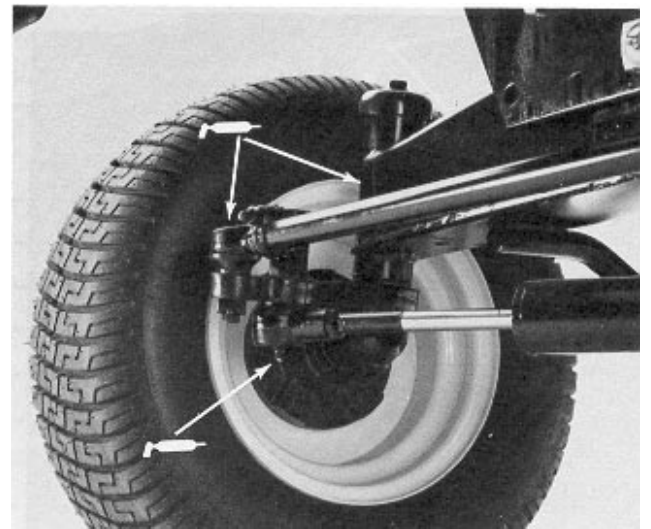

Figure 29
2 wheel drive machines only—cylinder end (2), center pivot (1), spindles (2), tie rod assembly (2) (Fig. 29).